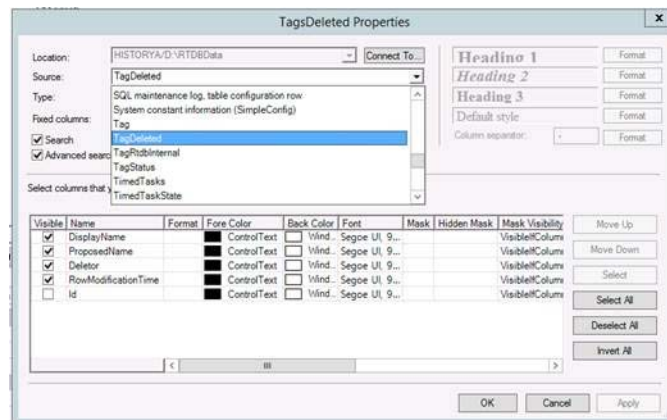

Figure 223. Vrtin Tag Deletion
**TagDeleted** option from the drop down menu and click **OK** (see Figure 223). It will give the list of deleted logs.